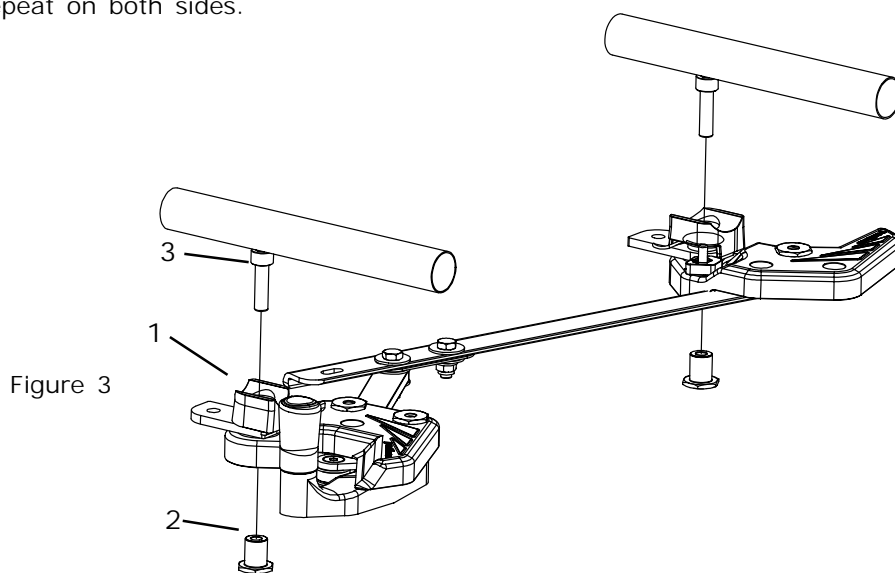
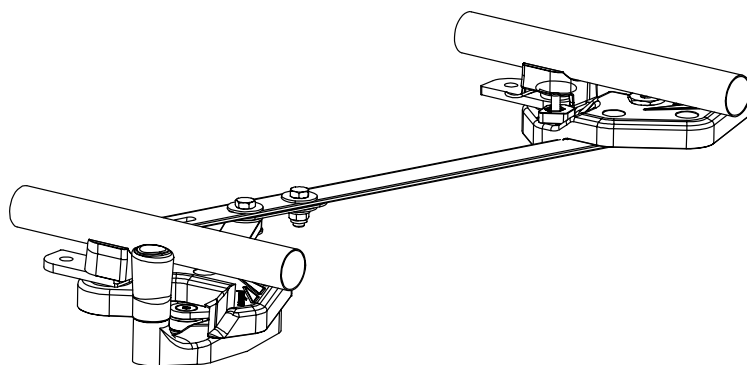

Figure 3
Figure 4
2. Remove the temporary bolt situated in the spring mounting (1). See figure 3.
3. Attach the brake onto the chassis by screwing the mounting bushing (2) into the bolt (3) situated on the seat tubing of the chair. Drop some Loctite onto the hinges of the mounting bushing (2).
4. Make sure the spring mounting (1) is correctly attached around the tubing. See figure 4.